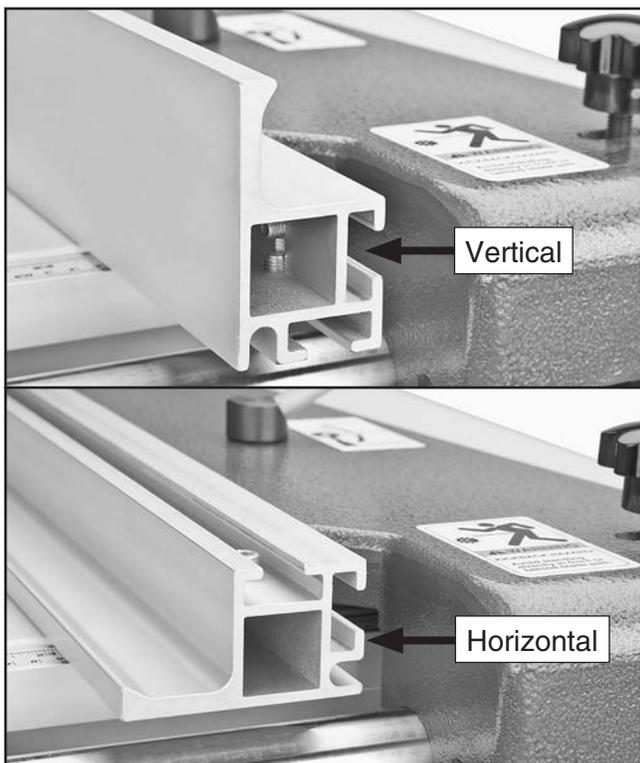

Figure 51. Rip fence positions.
2. Place the fence in the vertical position for larger workpieces, or in the horizontal position for angled cuts and for small workpieces (see **Figure 51**).